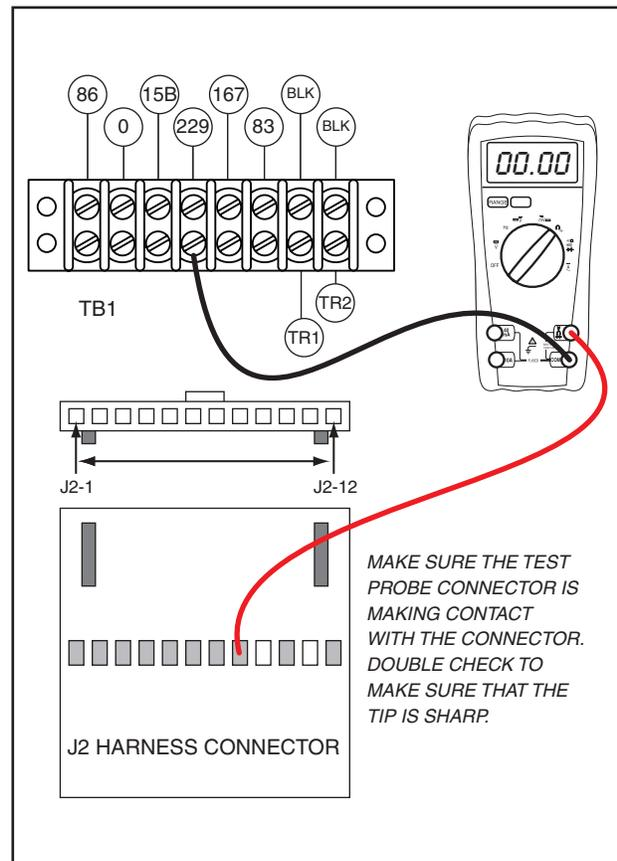

Figure 6-48. – Testing Wire 229 Between J2 Connector and Terminal Block 1 (TB1)
5. If voltage was not measured in Step 3 connect one meter test lead to Wire 229 removed from the SSR. Connect the other meter test lead to Wire 229 at the Terminal Block 1 (TB1). Continuity should be measured. If continuity is not measured repair or replace Wire 229 between SSR and TB1. Remove the J2 connector the printed circuit board. Connect one meter test lead to pin location J2-8 (Wire 229) connect the other meter test lead to Wire 229 at TB1. See Figure 6-48. Be careful not to damage the pin connectors with the test leads. Continuity should be measured. If continuity is not measured repair or replace Wire 229 between the J2 connector and TB1.